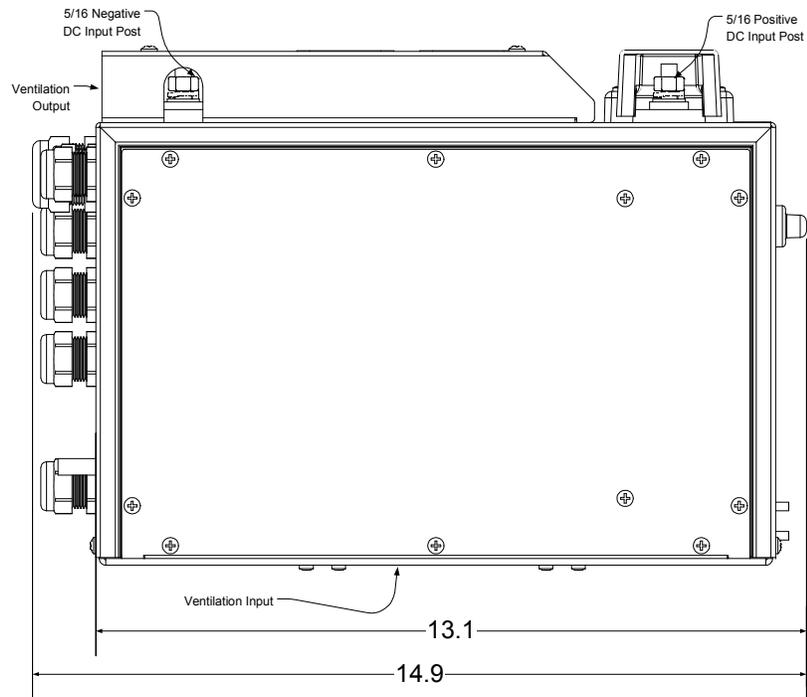

Figure 3 – MPG Side View
1. **WARNING:** DC cables should be as short as possible. The optional installation kit includes all DC cables. The Mobile Power Generator is polarity sensitive and careful attention must be paid to the polarity. The black DC cable must be connected to the battery negative (-) and the negative (-) Mobile Power Generator terminal, located under the top cover (blue). (See Figure 3 – Side View) The red DC cable must be connected to the fuse which is connected to the positive (+) battery connection and the positive (+) Mobile Power Generator terminal, located under the red cover. (See Figure 3 – Side View)